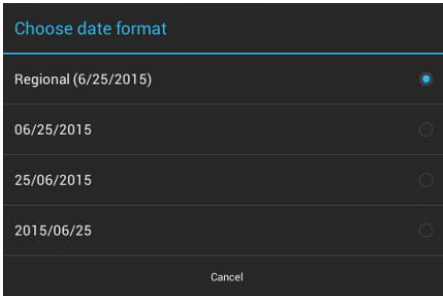

**FIG. 82** Select Time Zone window
Select Time Zone:	Use the Select Time Zone window (FIG. 82) to select the current time zone.
1. Press **Select Time Zone** to open the *Select Time Zone window* (FIG. 82).